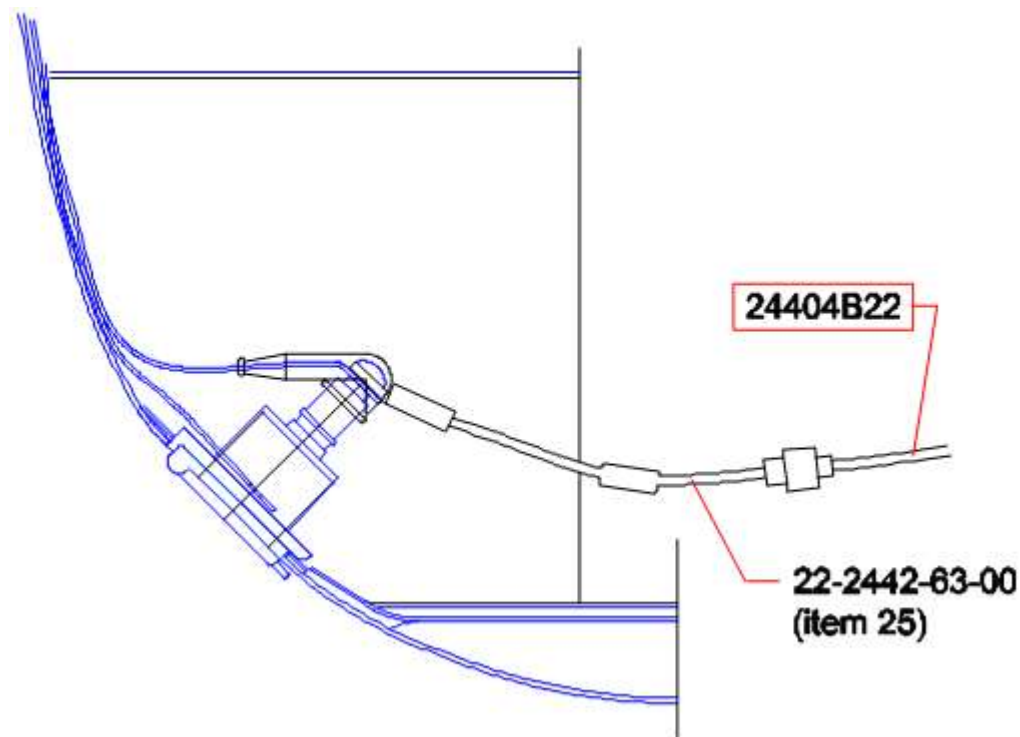

Figure 6. Cross section of fuselage.
13. Remove the heat shrink from the capped and stowed wire 24404B22, and install the fuse jumper (item 25). See Figure 6.